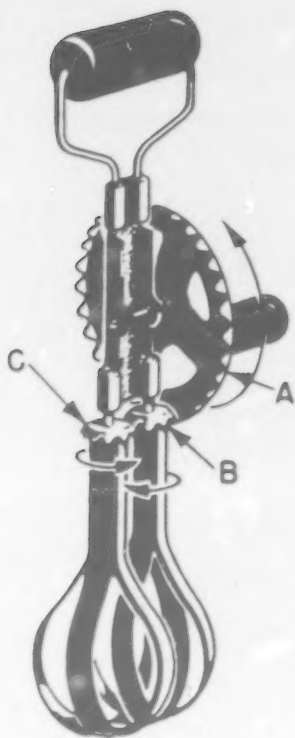

Fig. 1. A simple gear arrangement
An egg beater is a simple example of how gears work (fig. 1). Gears in this device can change the direction of motion, increase or decrease the speed, and magnify or reduce the force. By looking at figure 1, you can see how directional changes are made through the use of gears. The crank handle is turned in the direction indicated by the arrow. This is a clockwise direction, if you view it from the right. The 32 teeth on the larger vertical wheel (A) mesh with the 8 teeth on the right-hand horizontal wheel (B), which rotates as shown by the arrow. The small wheel (B) turns in a clockwise direction and meshes with the teeth of wheel C. This causes wheel C to revolve in the opposite direction. The rotation of the crank handle has been transmitted by gears to the beater blades and causes them to rotate.